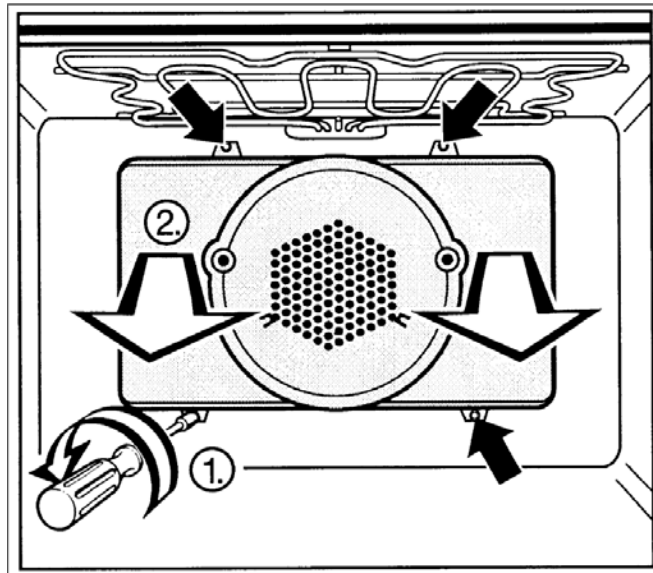

Figure 5-15: Removing the Oven Cavity Back Panel
2. Refer to Figure 5-15. Remove the four screws from the panel (Item 1).